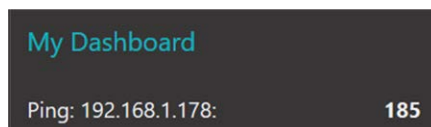

Figure 9.37 Example display of the round trip time
- Join the two nodes and click **Deploy**. Start your dashboard. You should see the round trip time as shown in Figure 9.37